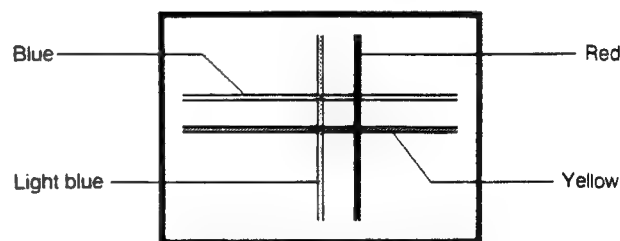

Fig. 2 Horizontal and vertical misalignment
- 4 If you see separate colored lines (Fig. 2 to 4), use the ⑤ R/B, ④ ◀, ⑥ ▶, ② ▲, and ⑧ ▼ buttons on the remote control unit to make the red and blue lines disappear into the other lines. Each time the ⑤ R/B button is pressed, the line to be controlled (red or blue) alternates. Pressing the ④ ◀ button moves the vertical line to the left, while pressing the ⑥ ▶ button moves the vertical line to the right. Pressing the ② ▲ button moves the horizontal line upward, while pressing the ⑧ ▼ button moves the horizontal line downward. In figure 2, for example, press the ⑤ R/B button to control the red line, and then press the ④ ◀ button until the red line converges. Press the ⑤ R/B button again to control the blue line, and then press the ⑧ ▼ button until the blue line converges. Convergence is correct when all three colors (red, green, and blue) converge, producing single white lines.